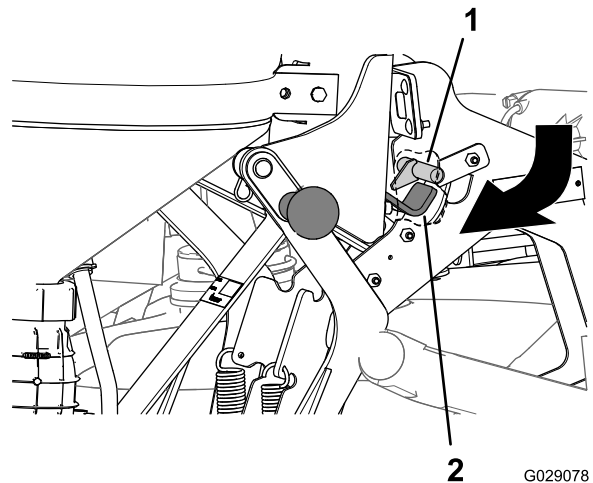

Figure 39
3. Push in the handles at the top of the cradle until the hook portion of the latch is aligned behind the latch rod of the main-support frame (Figure 39).